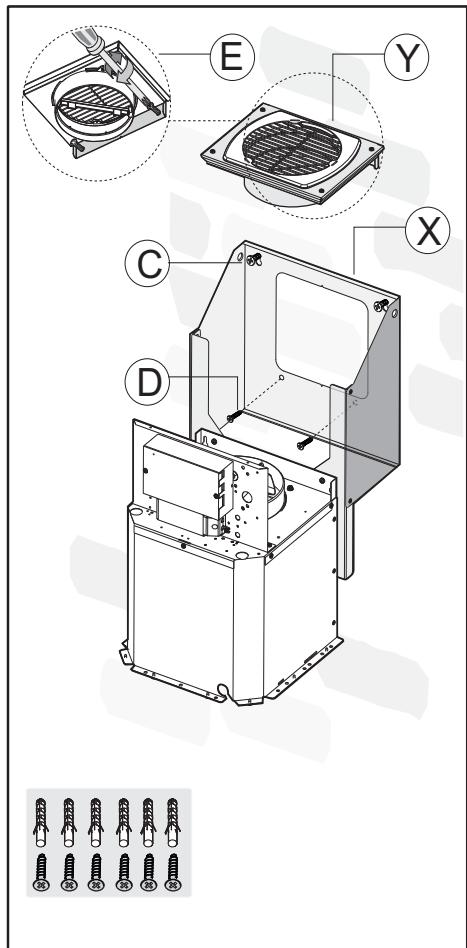

Fig.6
- Fix the 2 screws **C** and the screw anchors (Fig. 6), without tightening them completely.
- After the necessary adjustments have been made, fix the motor assembly **X** in place using the 2 screws **D** (Fig. 6).
- Fix the air outlet bracket **Y** to the wall using the 2 screws **E** (Fig. 6).
- Position the motor assembly **X** against the wall, make sure it is in a horizontal position and tighten the screws **C** (Fig. 6).